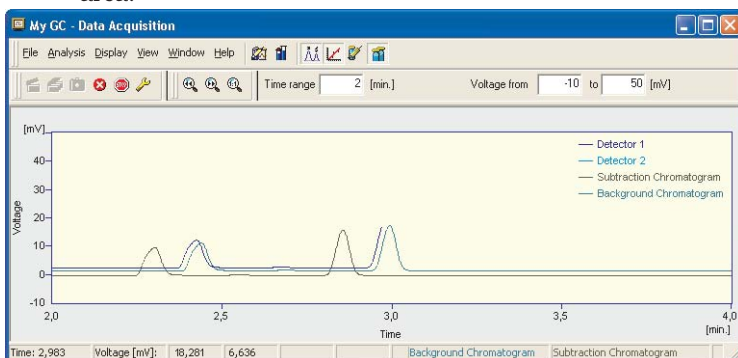

Fig. 8. Data Acquisition window
- Click the  icon to display the current signal from detectors and check for drift and noise (see Fig. 8 on page 17).